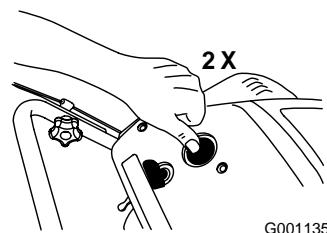

Figure 15
3. Firmly push in the primer 2 times with your thumb, holding the primer in for a second before releasing it each time (Figure 15).